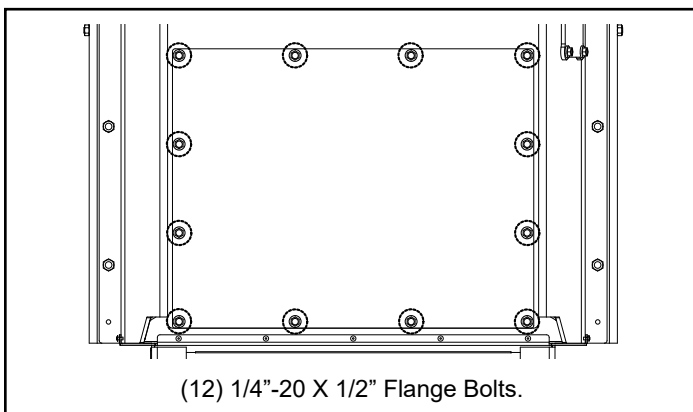

Figure 3
3. Remove (12) 1/4"-20 X 1/2" flange bolts and remove rear cover. Figure 3.